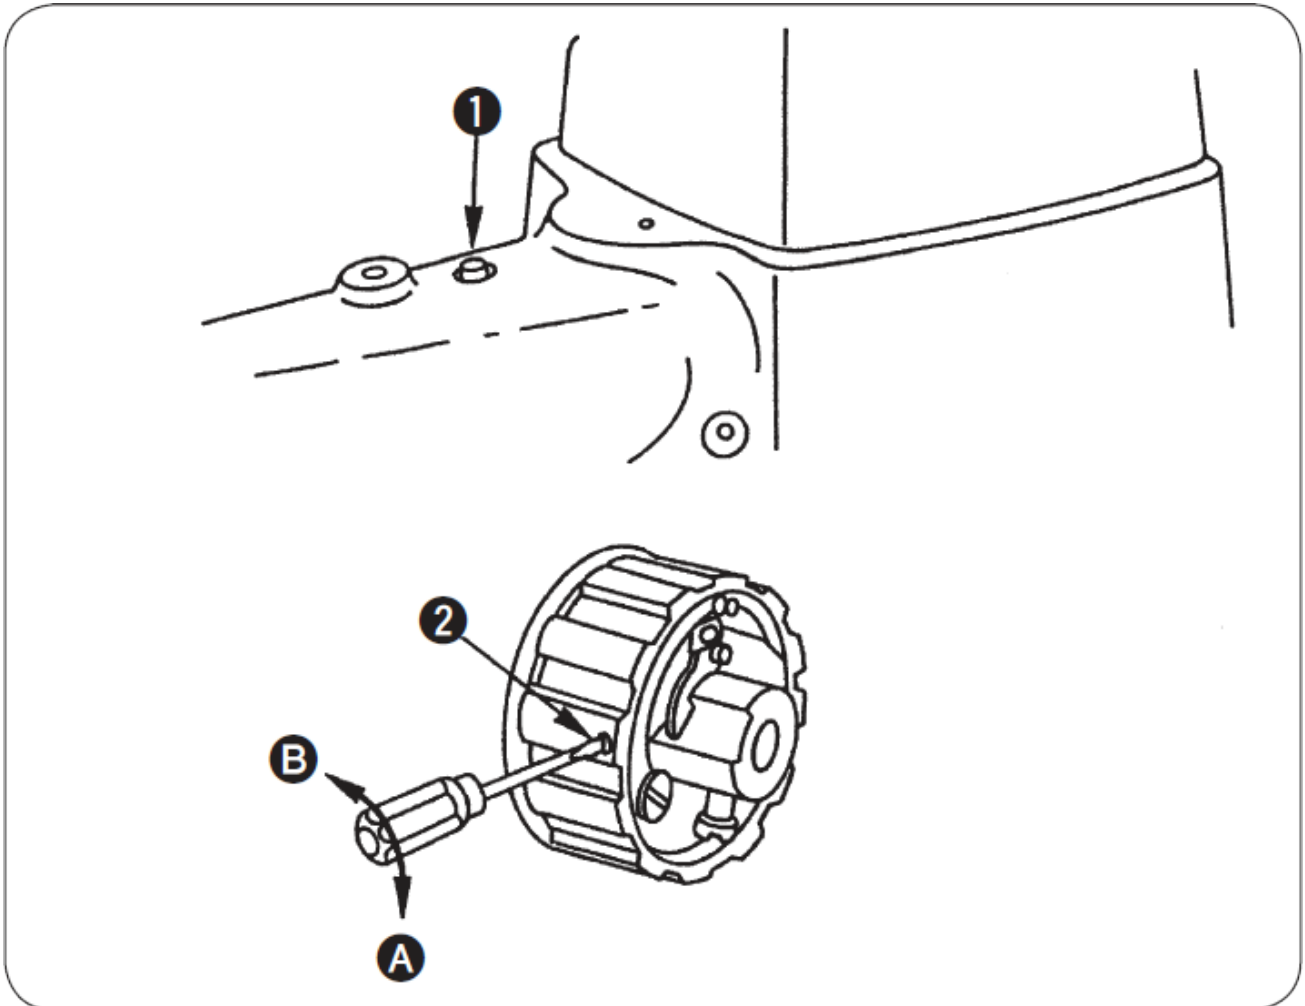

Figure 32
2. Pressing push button (Fig 32, Item 1), strongly turn the pulley in the opposite direction to its normal rotational direction